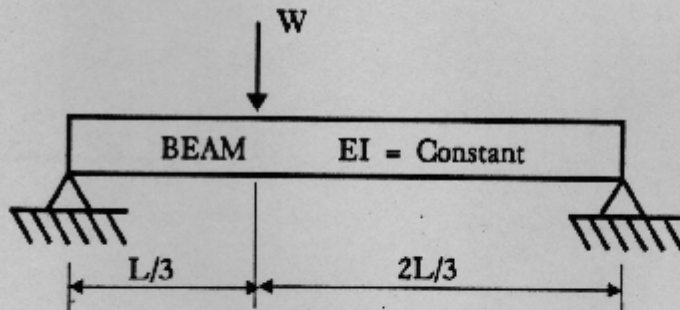

Figure Q6
6. The beam shown in Figure Q6 is to be analysed using the Rayleigh method.